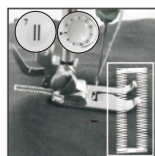

Fig.21
- (6) Choose the stitch pattern #7 , then turn on switch and sew till buttonhole is fully sewed (Fig.21)